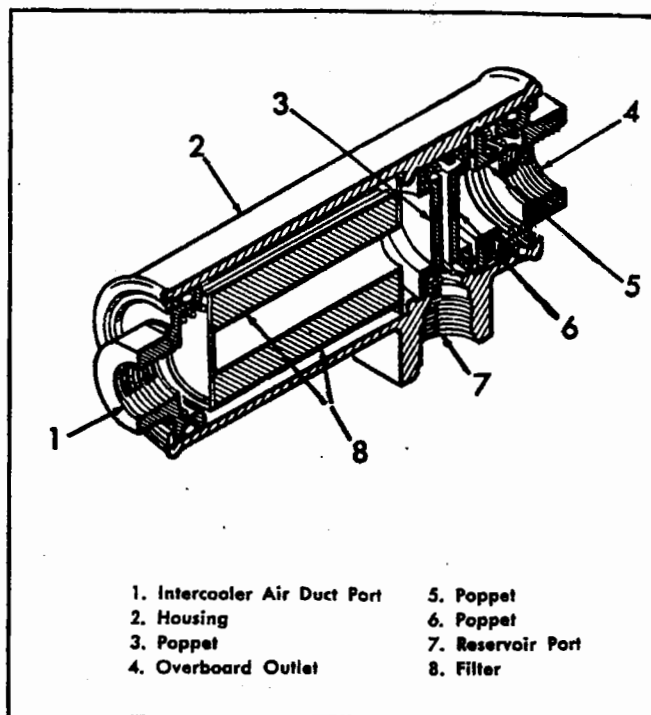

Figure 4-100. Pressurization Valve.
4-949 **DESCRIPTION.** (See figure 4-100.) This valve may be purchased from the Airex Mfg. Co. Their part No. is B1062, Model 45. It combines a filter and relief valve and is installed in the air line between the intercooler air duct and the hydraulic reservoir. It is located just above the hydraulic panel in the engine accessory section. Access to the panel may be gained by removing the upper right hand wing gap cover. The function of this valve is the pressurization of the reservoir to 12 psi (plus 0, minus 1 psi) and the relief of either insufficient or excessive pressures due to either less or more oil returning to the reservoir from the system than is drawn by the pump. In the event that more oil returns from the system than the pump draws, this valve has an overboard outlet (4) to relieve the pressure. The valve consists of a three port housing (2), a filter unit (8), and three poppets, one (5) of which is set to open to the overboard line should pressure in the reservoir exceed 12 psi and one of the other poppets (3 and 6) will open should pressure in the reservoir be less than atmospheric. The third poppet will open if pressure in the reservoir is less than intercooler air duct pressure.